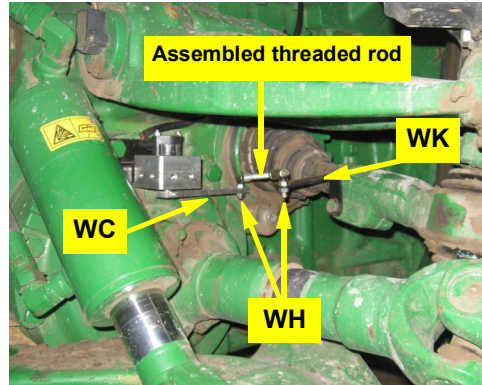

Figure 2e: Assembled threaded rod installed
- e. Using the remaining hardware **WH**, install the assembled WAS linkage from step 1d between the rod bracket **WK** and the last hole in the WAS connector arm **WC**. Install the linkage with the swivel studs downwards but leave the swivel stud nuts **WH** loose (Figure 2e).